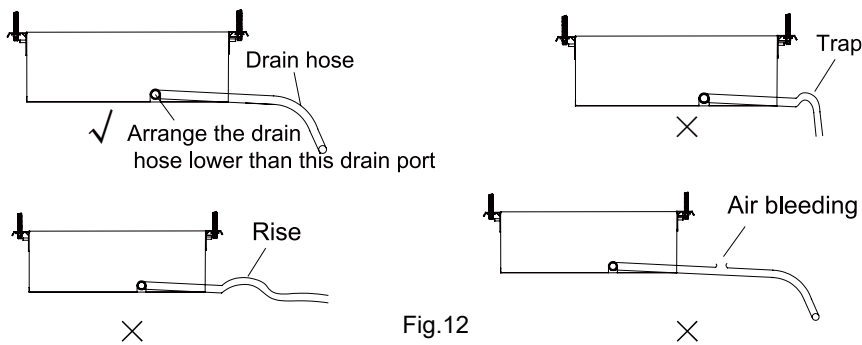

Fig.12
1. Install the drain hose with downward gradient (1/50 to 1/100) and no risers or traps are used for the hose.(Fig.12)